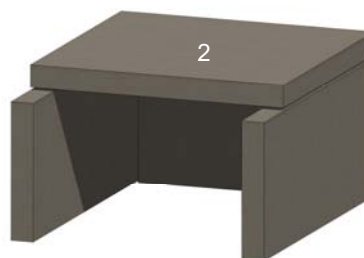

Figure 10. Base Plate
D. Set the base plate (2), ensuring it is level and square. See Figure 10.